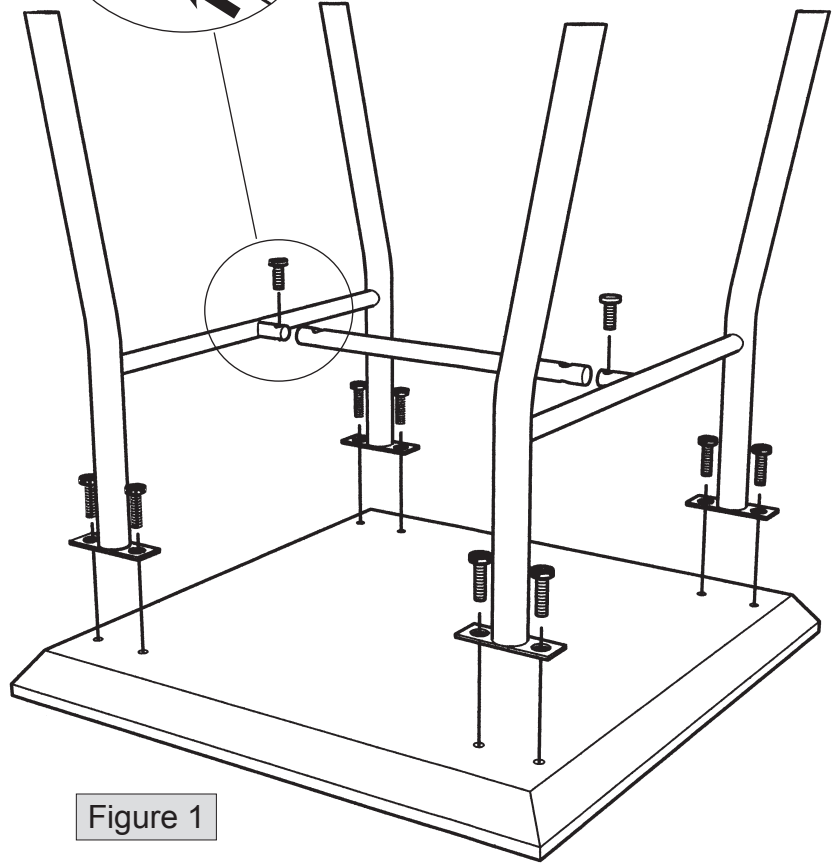

Figure 1
2. Connect the center support tube between the two leg frames as shown in figure 1. Attach at each end using 1/2" Allen bolts as shown in figure 2. Keep bolts slightly loose for now.
4. Place leg frame assembly on tabletop as shown in figure 1. Align holes and attach using 3/4" Phillips bolts. Tighten these bolts securely.